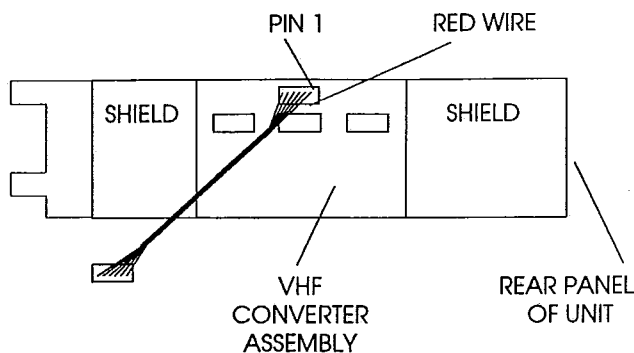

FIGURE 1
1) Remove the top cover from the R8 receiver by removing (5) #6-32 x 1/4" Pan Head Phillips BLACK screws. Retain the cover and screws for reassembly.
2) Remove the bottom cover from the R8 receiver by removing (6) 4-40 x 1/4" Pan Head Phillips screws. Retain the cover and screws for reassembly.
3) Identify the (6) conductor cable (17' length) and plug it onto the VHF converter assembly (Figure 1) being careful to align the connector with the RED conductor on Pin 1 of the VHF converter assembly.